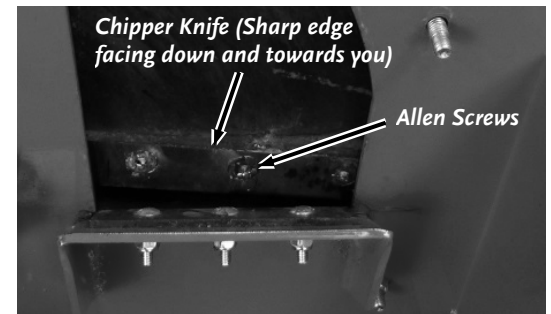
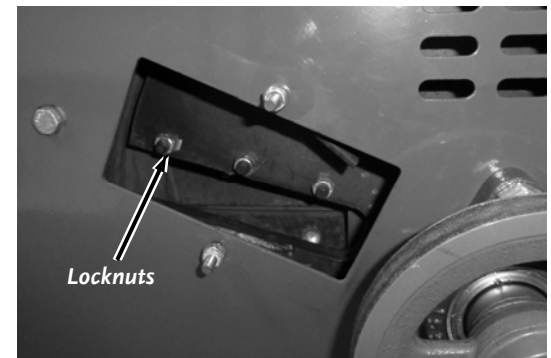

Figure 38
Figure 39
3. Rotate the Flywheel using a stick until the three countersunk Allen Screws (**Figure 38**) and Locknuts (**Figure 39**) attaching the Knife to the Flywheel are visible through the Access Openings.
4. Clean out the Allen Screws with an Awl or Sharp Tool (**Figure 38**).
6. While holding the Allen Wrench, remove the Locknut using a 1/2" socket (**Figure 39**).
9. Install a new or sharpened Knife as shown with the Knife edge facing down and towards you (**Figure 38**) and finger tighten the Allen screws and Lock Nuts (use the new hardware supplied with a new Knife kit) to hold the Knife to the Flywheel.